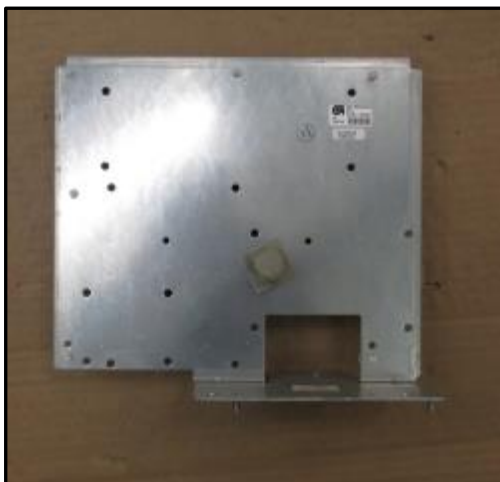

Fig 1.21 – CRIND Control Bracket after removal
- 40.** Remove the CRIND Control Bracket from the dispenser. It can be discarded. It will not be re-installed. (Fig 1.21)